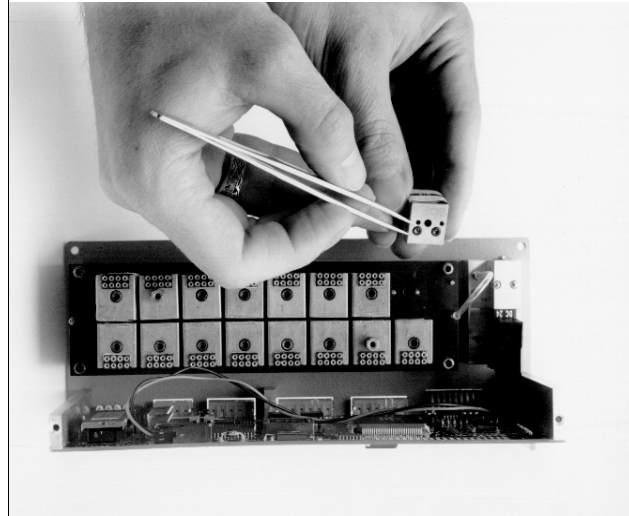

Figure 5.4
- (1) Disassemble the module as described in **Section 5.1.2**.
- (2) Remove the PC-206 Amplifier/Multiplexer board as described in **Section 5.1.3.1**. Lay the circuit board aside on an anti-static surface.
- (3) Remove the retaining screw from the desired DH200 transducer. Lift the transducer straight up to remove it. Make sure that the two (2) O-rings remain with the transducer as it is removed from the adapter plate. Ensure that the adapter plate O-ring sealing surface is clean and free of contaminants. See **Figure 5.4** (above).
- (4) Replace the DH200, making sure that the electrical connections are located on the outer edge of the cubic design. Be sure that the two (2) O-rings are in place on the DH200 and that O-ring surfaces are free of contaminants. The DH200 must fit the guiding pins smoothly and be aligned with all other DH200 transducers. Tighten the retaining screw to 40 inch-ounces \pm 5 inch-ounces of torque.
- (5) Replace the PC-206 board as described in **Section 5.1.3.1** and reassemble the module. Ensure that the two hex-head standoff screws are installed on DH200 positions 2 and 15 and that they align with the two PC-206 mounting holes.
- (6) Test your scanner to ensure proper operation.